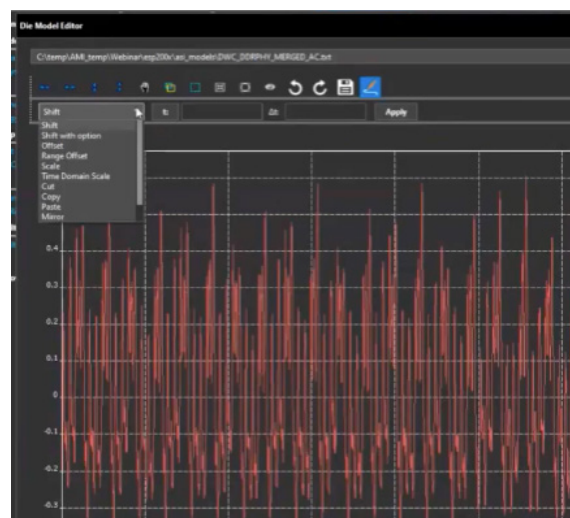

Figure 27: Drop-down menu for manipulating the current profile
- The die model editor enables users to edit and modify a current profile that is provided. It can be scaled, shifted, cut and pasted, and merged (Figure 27). This is a great way to edit and manipulate a PWL.